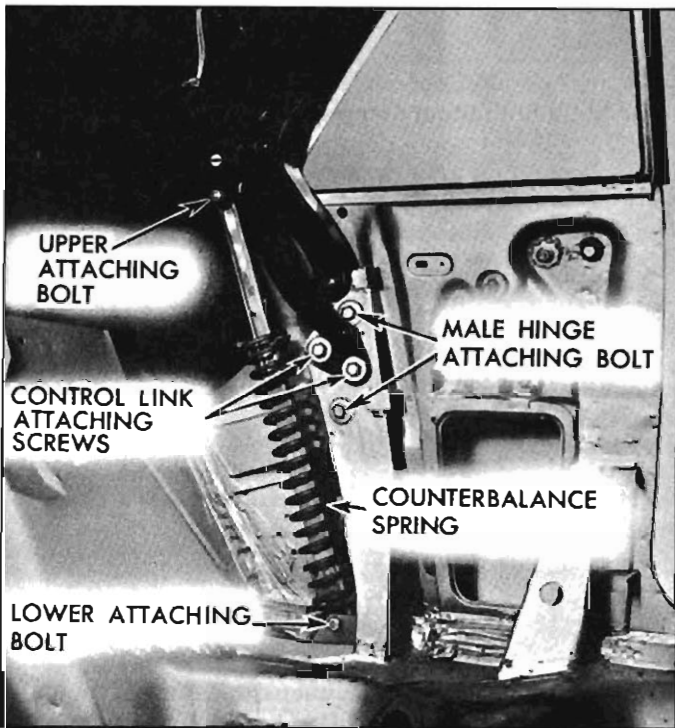

Fig. 34—Top Lift and Linkage Attachment at Rear Quarter
- b. Loosen two bolts securing control link adjusting plate sufficiently to permit adjustment of plate (fig. 34).
- b. Loosen male hinge assembly and control link attaching bolts (fig. 34).